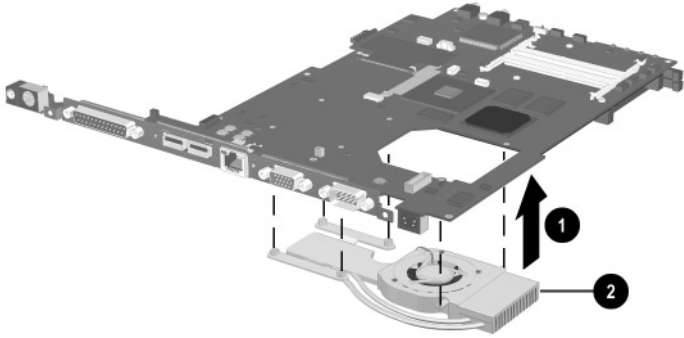

Figure 5-33. Removing the Heat Sink
7. Lift the system board straight up ①. The heat sink ② will remain resting on the work surface (Figure 5-33).